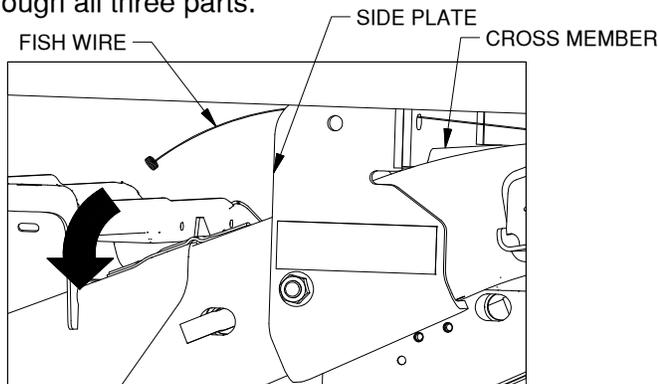

Figure F3: Looking at driver side frame.
- 5. Install carriage bolt in side plate ear.** If the area directly in front of the side plate is not accessible, a fish wire is provided to allow the carriage bolt to be pulled up through the side plate. Feed the coil end of a fish wire through the holes in the front cross member parts, and the hole in the driver side plate. Move the end of the fish wire into an open space below the fuel tank and other obstacles, see Figure F3. Attach a 1/2" x 2" carriage bolt and pull the fish wire and bolt through all three parts.